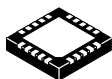

**Figure 9. Solder Paste Application on Pins**
4. The aperture opening for the signal pads should be between 50–80% of the QFN pad area as shown in Figure 9.